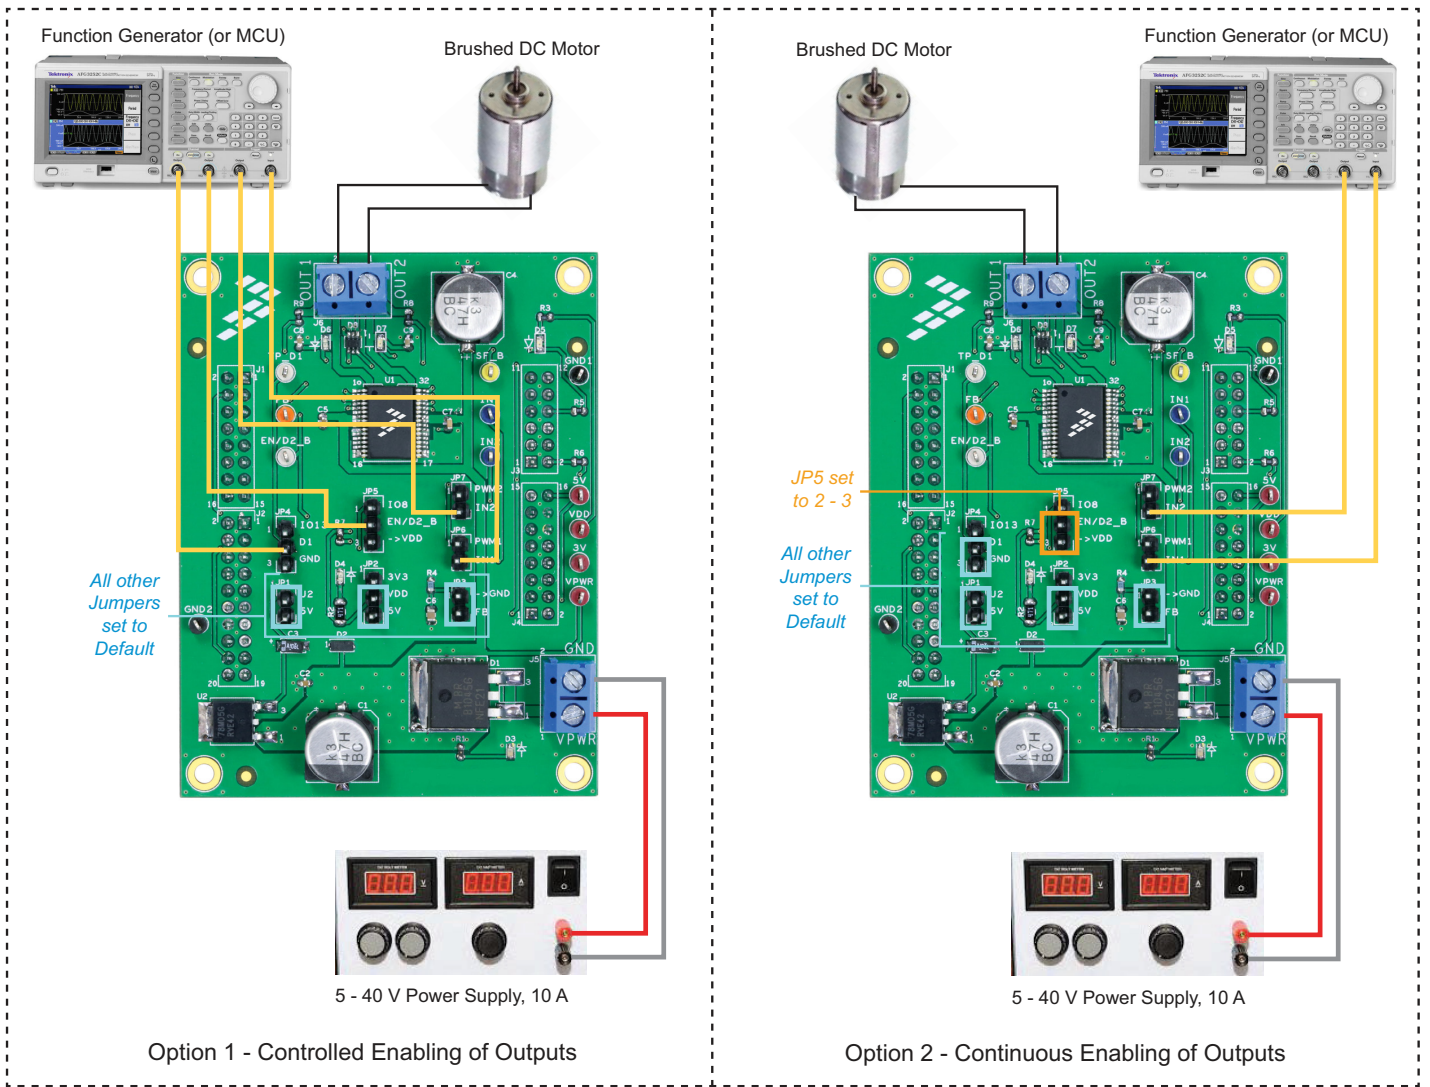

Figure 13. Hardware Configuration - Stand-alone
- set the the H-bridge outputs to be continuously enabled while the board is connected to the function generator (Option 2).Figure 13 illustrates how to set the jumpers and connect to a function generator (or an MCU) for each of these options.
Figure 13 illustrates the hardware configuration.